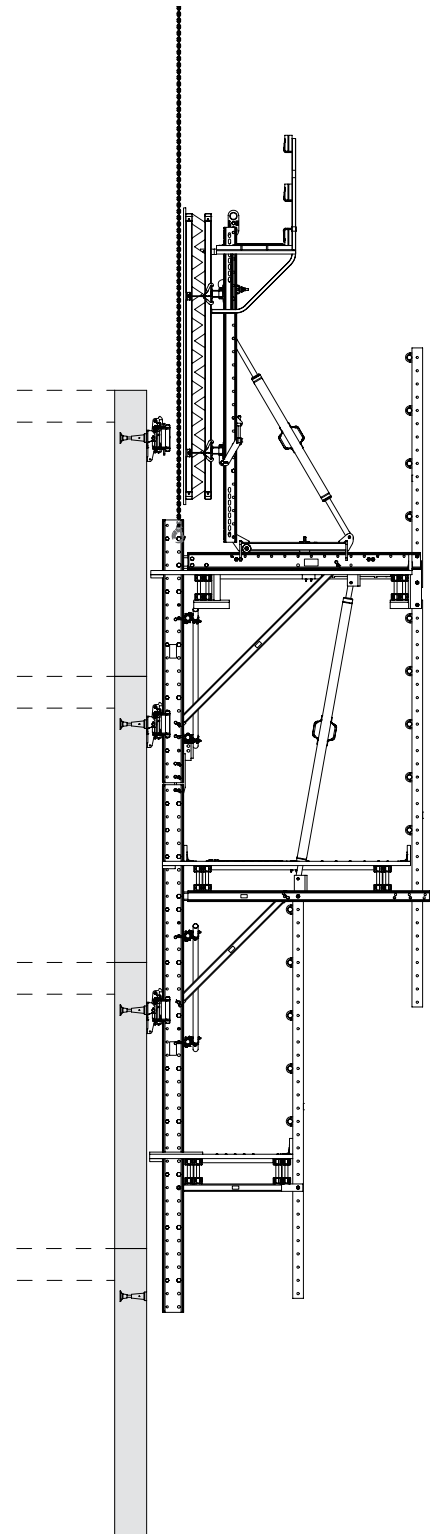

Fig. B6.03
- when attached directly to the spacers in the Climbing Rails 2 x 5t, total max. 10 t (Fig. B6.03)